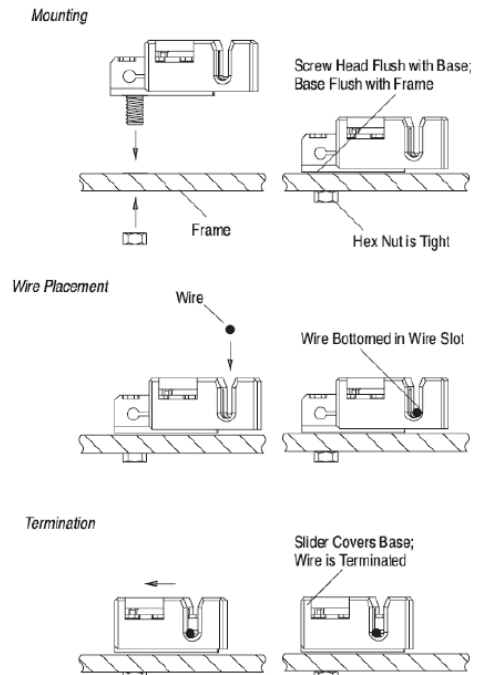

Figure 3 (Tyco Electronics Corp. 1954381-2)
**(2) Grounding Using Existing Ground Hole (Figure 3, 1954381-2)**